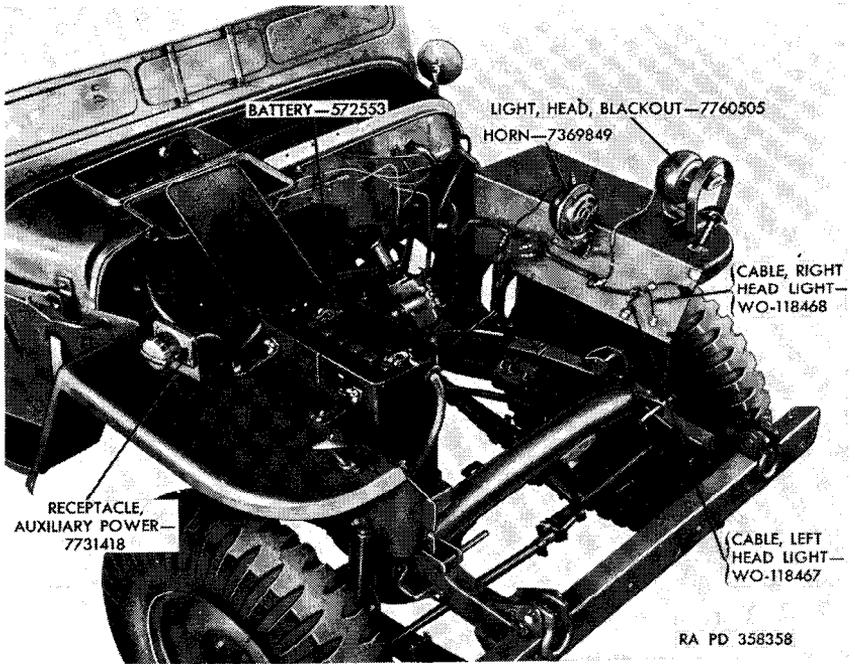

Figure 12. Batteries.
b. Remove Batteries (fig. 12). Remove battery positive cable connecting the two batteries. Remove battery ground cable on cowl battery. Remove wing nuts securing batteries and remove batteries.